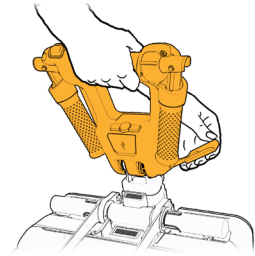

Figure 49
1. Make sure the handlebar is secured in an upright position (see Figure 49).